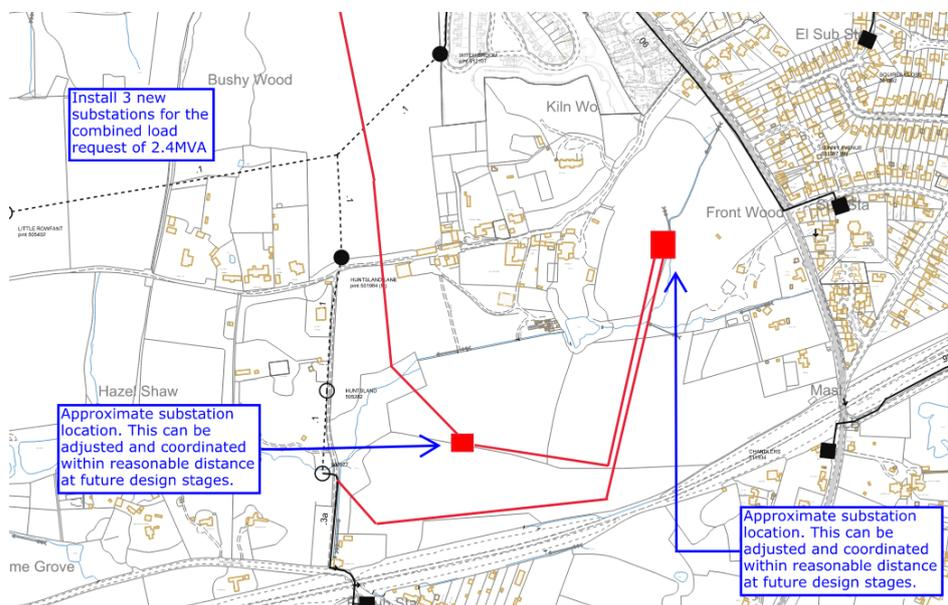

Figure 11: Proposed new substation and development HV network
- 5.4.3 A network study is required to confirm the POC and/or the extent of reinforcement which will be necessary in order to provide the required capacity. This study will be carried out on receipt of request for a formal quotation. Load at the Primary Substation is limited therefore works at the primary may also be required to provide the capacity required (Figure 11).